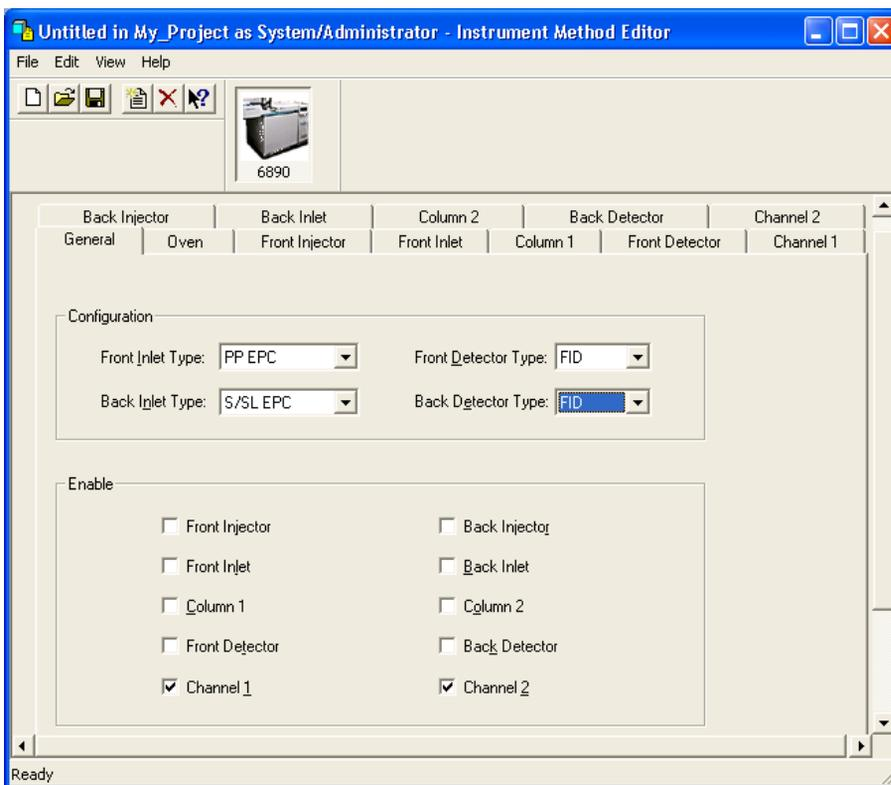

Figure 3-3 Instrument Method Editor, 6890, General Tab
2. Click **Create New** to create an instrument method. The Instrument Method Editor window appears. Click the **General** tab, if it is not already displayed (Figure 3-3, shown for the 6890 GC).
1. The Instrument Method Editor lists the instruments in your selected Empower chromatographic system (Figure 3-3). Click the icon for GC (the 6890 in Figure 3-3), then click the **General** tab. The General tab appears.